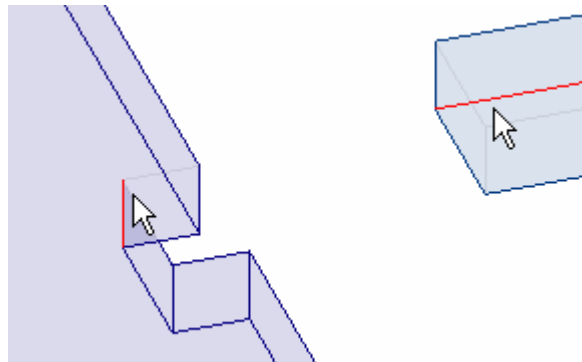

Figure 16. Edges Selected
33. Use Edge Selection  and select the top edge of the notch in the back of the fixed side piece and the top edge of the back cross piece as shown by arrows in figure 16. Hold the shift key down to select more than one edge